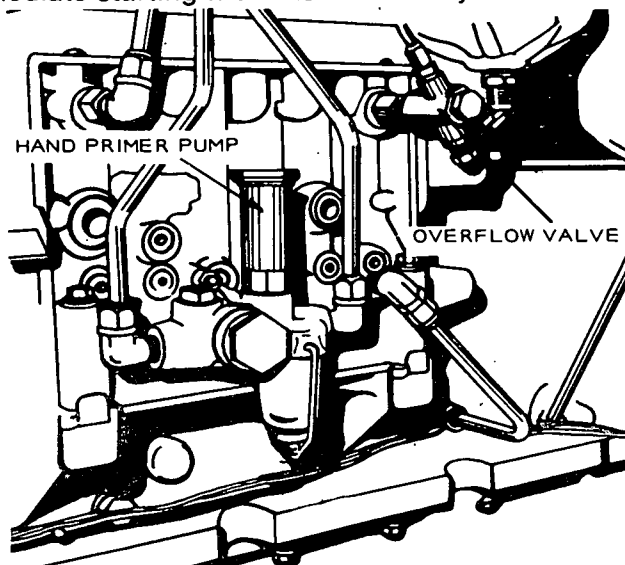

FIGURE 18. FUEL INJECTION SYSTEM
2. Using hand pump (Figure 18), prime system until fuel flow around filter vent screw is free of bubbles.
To bleed fuel injection pump sump refer to Figure 18. Disconnect fuel line from overflow valve and actuate hand primer. Continue pumping until fuel flow from valve is free of bubbles. Reconnect fuel line to overflow valve.